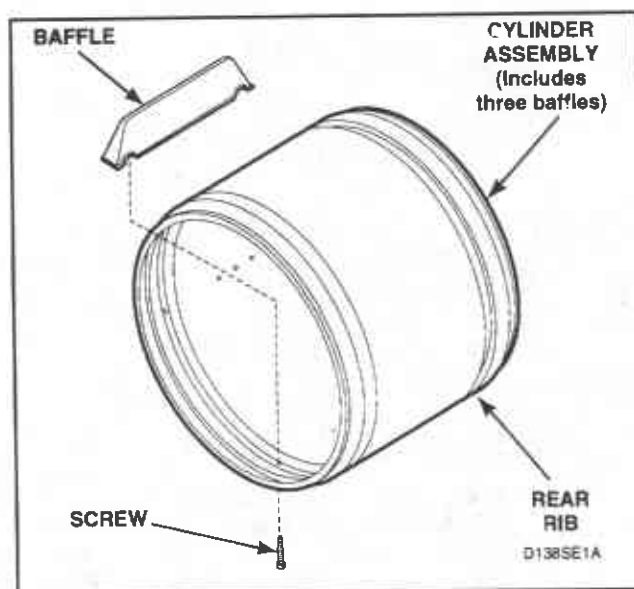

Figure 41
- Baffles - Remove screws holding baffles to cylinder, *Figure 41*